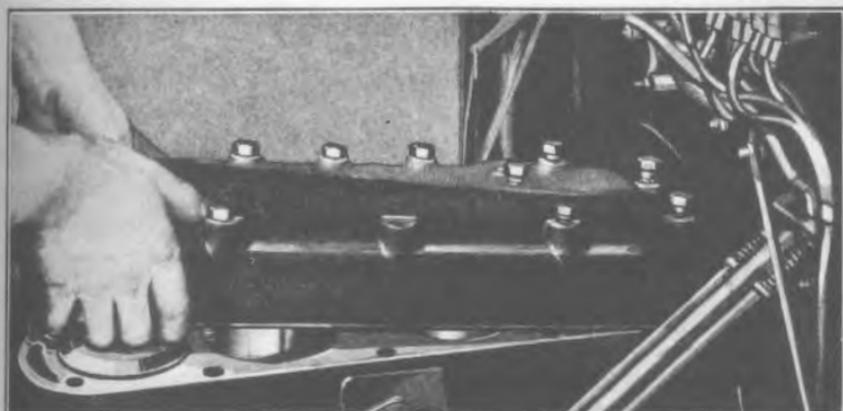

Fig. 227
- Position cylinder head on cylinder block (See Fig. 227).